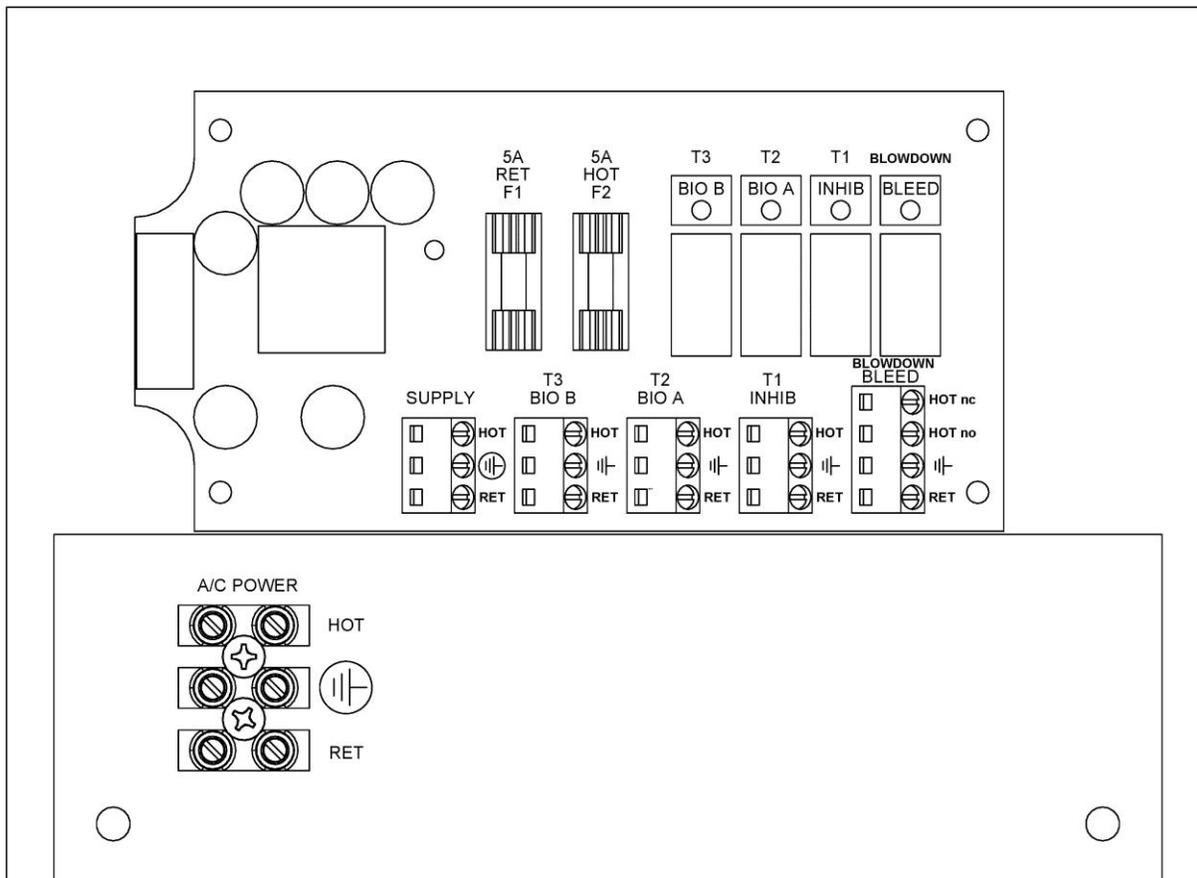

Fig. 6
The *MicroVision* electronic input circuitry is fuse protected on both the hot and neutral inputs using a replaceable five amp fuse (*Fig .6*).
Conduit controllers have openings for conduit connections for hard wiring. (See Fig. 6) for input and output power connections. Use only 18 AWG (1,2 mm²) stranded wire for conduit power and load connections. Supply (input) A/C power is connected via the terminal block located on the back panel marked “A/C Power” (Fig. 6). The top part of this terminal block is removable to allow for easy access to the connector’s three (3) screws.